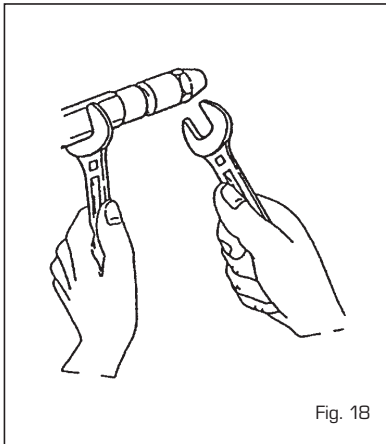

Fig. 18
- Block the spray door using a n°19 spanner and unscrew the nozzle with a n°16 spanner (fig. 18).